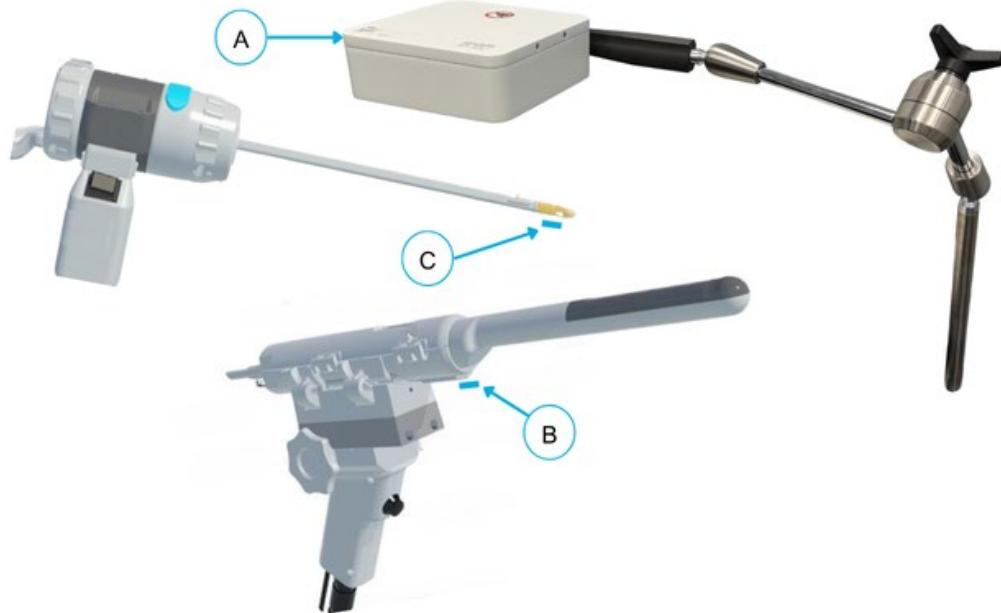

Figure 12-2: Field Generator, TRUS, and Delivery Device Sensors
- **NOTE:** The Field Generator (**A**) tracks positioning sensors on the Delivery Device (**C**) and TRUS Cradle (**B**) (**Figure 12-2**).
- **NOTE:** Sensors (**B, C**) (**Figure 12-2**) must be within the tracking volume—50 cm x 50 cm x 50 cm (20 in x 20 in x 20 in) - to be located and their avatars displayed on the monitor.